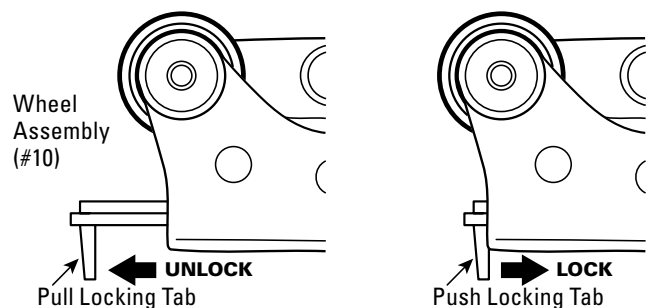

Figure 4
A. Ensure the tab lock on the Wheel Assembly is pulled out in the unlocked position. See **Figure 4**.
D. Lock the Wheel Assembly by sliding the locking tab. See **Figure 4**.